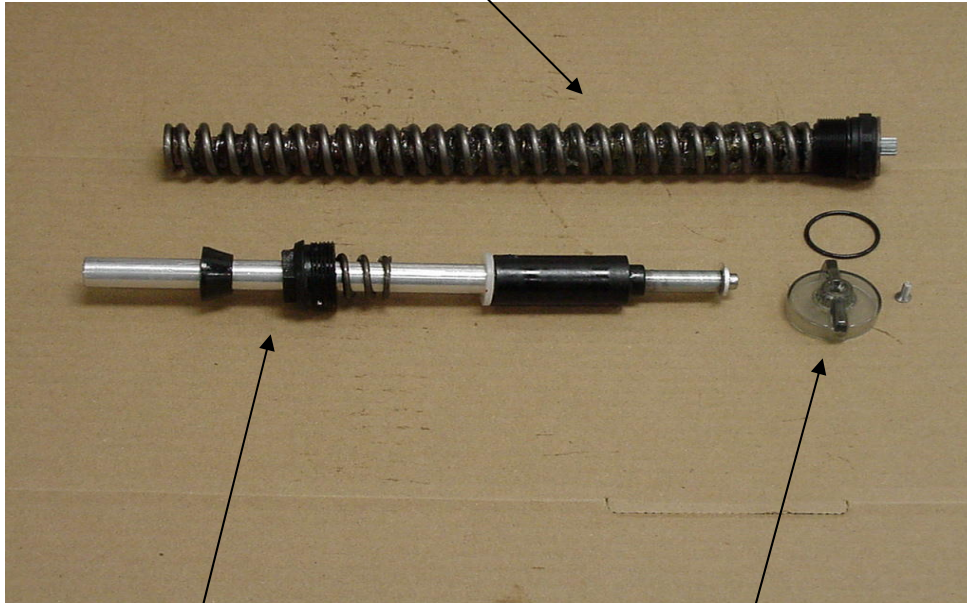

Figure 1
2. Remove the 2mm Allen screw from the knob. Use a 28mm socket to unscrew the top cap assembly from the crown. (Refer to Figure 1)